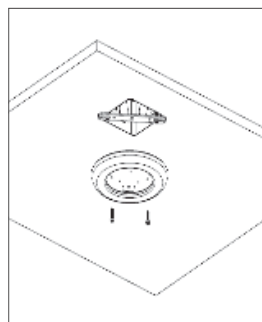

FIGURE 5
F) If the fixture is installed to 3.5" or 4" junction box, align appropriate holes on the fixture to the holes on the mounting bracket (2.75" distance). Use 2 of the included screws (M4x20 screws) to attach the fixture to the mounting bracket. If the fixture is installed to a 2.75" junction box align appropriate holes on the fixture with the holes on the junction box. Use 2 of the included screws (M4x40 screws) to attach the fixture which should be flush with the ceiling. Do not overtighten screws or fixture will not be flush with the ceiling. (Figure 5)